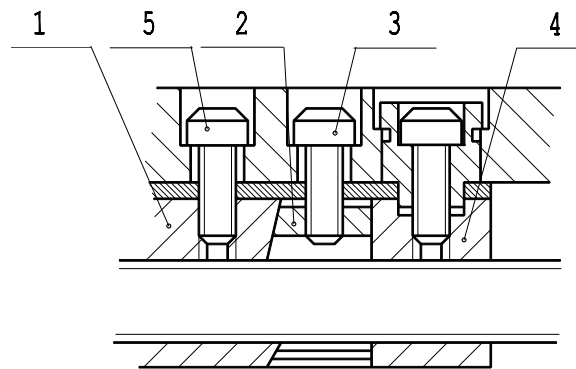

Fig. 16 Adjusting clearance between the leadscrew and the nuts
When there is seizure during moving of the compound rest and the cross slide or clearance between the cross slide and its guideways and that between compound rest slide and guideways, they can be adjusted by gibs through screws respectively. In case of backlash of cross slide leadscrew resulting from wear of adjustable nuts 1 and 4. First, loosen screw (5), and then draw up the wedge (2) with screw (3) at middle until the backlash is eliminated. Last, tighten the screw 5 (Fig. 16) to make the nut fixing.
There are six locking blocks in the spindle flange. Six locking rods 2 should be inserted into the 6 holes 31 in spindle and two surfaces between them should be applicable when mounting chuck after let the marking on the locking block aligning with the marking on the spindle. Turn in the locking block clockwise with square end spanner to make the cams of the locking block turn into the concave surface of locking rods until locking. After the six locking blocks are locked, re-screw up them to make all the cams be evenly locked, thus, the mounting chuck (or faceplate, or drive plate) can be well-completed (see Fig. 16))